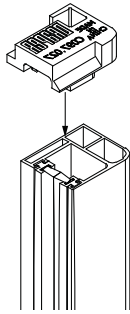

Figure 7
- ④ Insert upper retainer into top of side channel (see Fig. 7).